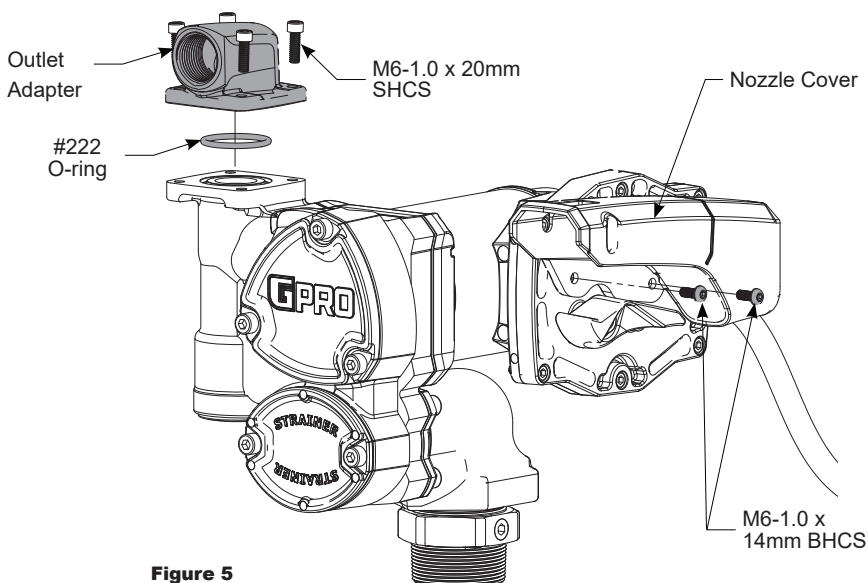

Figure 5
Using a 4mm Hex wrench, install nozzle cover using (2) M6-1.0 x 14mm BHCS in lower hole (see Figure 5).
3. Using a 5mm Hex wrench, install the (4) M6-1.0 x 20mm SHCS into the 1 in. NPT outlet adapter in desired direction on outlet port (see Figure 5).